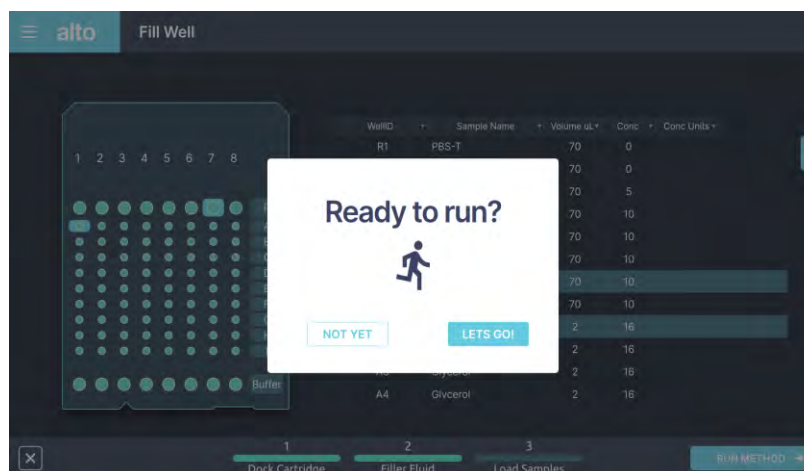

Figure 5.39: Initiate cartridge and experiment method loading by clicking on “LET’S GO!”
3. The software will now ask you if you are ready to run the experiment. Click on “LET’S GO!” (Figure 5.39).